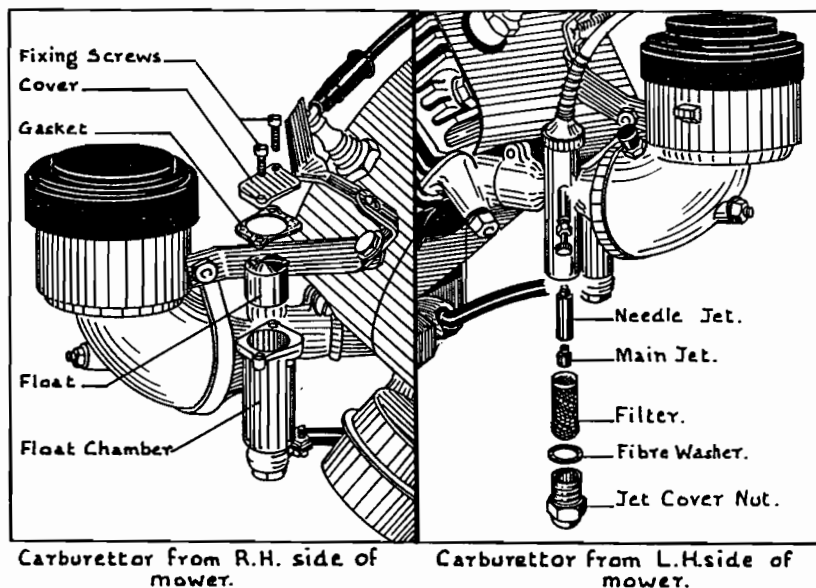

Fig. 19
If the flow of petrol from the "push-pull" petrol tap is satisfactory, replace the fuel pipe and check that the carburettor float chamber is clean and free from dirt and water. Remove the top cap (fig. 19) to carry out this inspection, and take out the float, being careful not to damage it. Wash the chamber out in petrol.
3. Check that the carburettor jet is not blocked. Remove the cover nut (fig. 19) at the carburettor base and take out the gauze filter. Wash this filter out in clean petrol. The jet can now be removed by unscrewing but do not attempt to clear this with fine wire or a pin. Blow through it to clear any obstruction.